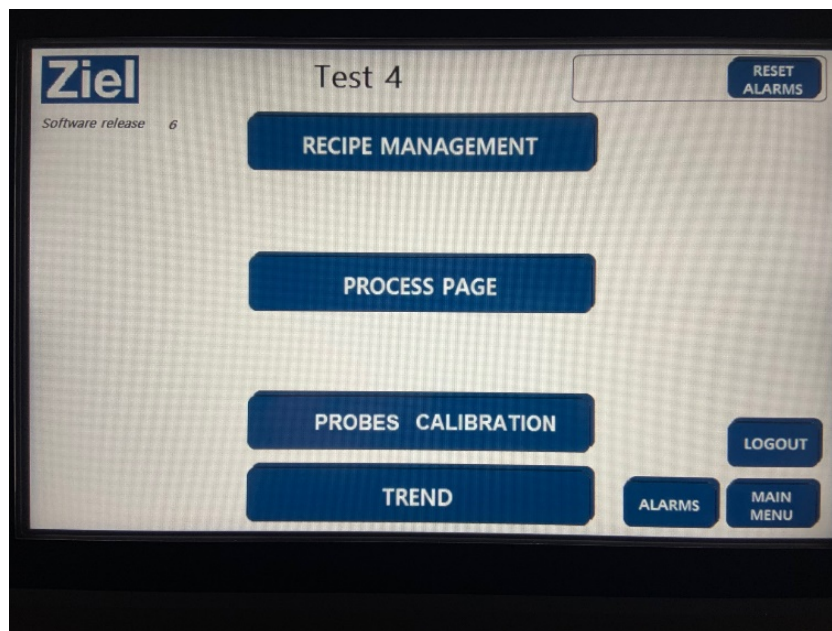

Figure 1. Main page
10. On the main screen select the “PROBES CALIBRATION” (Figure 1).